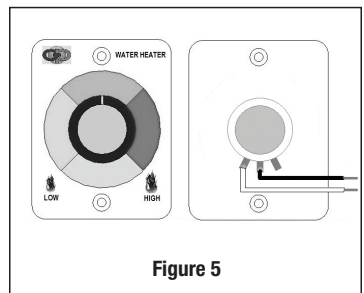

Figure 5
3. To install the remote Gas Modulation Control/GMC (Figure 5), connect the GAS MOD Box wire from the Water Heater to the White wire from the GMC and Black wire from the GMC to any accessible Ground wire/Ground connection of the vehicle. Be careful not to break wire connections on back of dial.
The Girard Products model GSWH-1M is a new 'induced-draft', tankless water heater designed specifically for Recreation Vehicles (RV). Its configuration and size are consistent with the tank based RV water heaters currently in use and is designed for OEM's and after-market use by the RV industry. A main feature of the GSWH-1M is a Gas Modulation Control (GMC - see Figure 5), which is installed inside the vehicle. Using the GMC, the heating capacity of the water heater can be manually adjusted from a minimum of 18,000 BTUs to a maximum of 36,000 BTUs and the incoming water temperature will rise 20°- 70° (F) based on the actual Hot water flow and the Gas Modulation Control (GMC) setting.
- 3.** Locate and set Gas Modulator Dial (GMC) to the appropriate setting (see fig.5 on page 8).